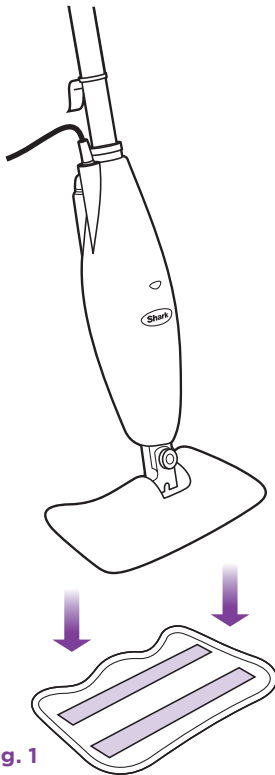

fig. 1
- 1 Place the micro-fiber cleaning pad on the floor with the quick fastener strips facing up. Place the **Light & Easy™** Steam Mop on the top of the pad to attach. (fig. 1)